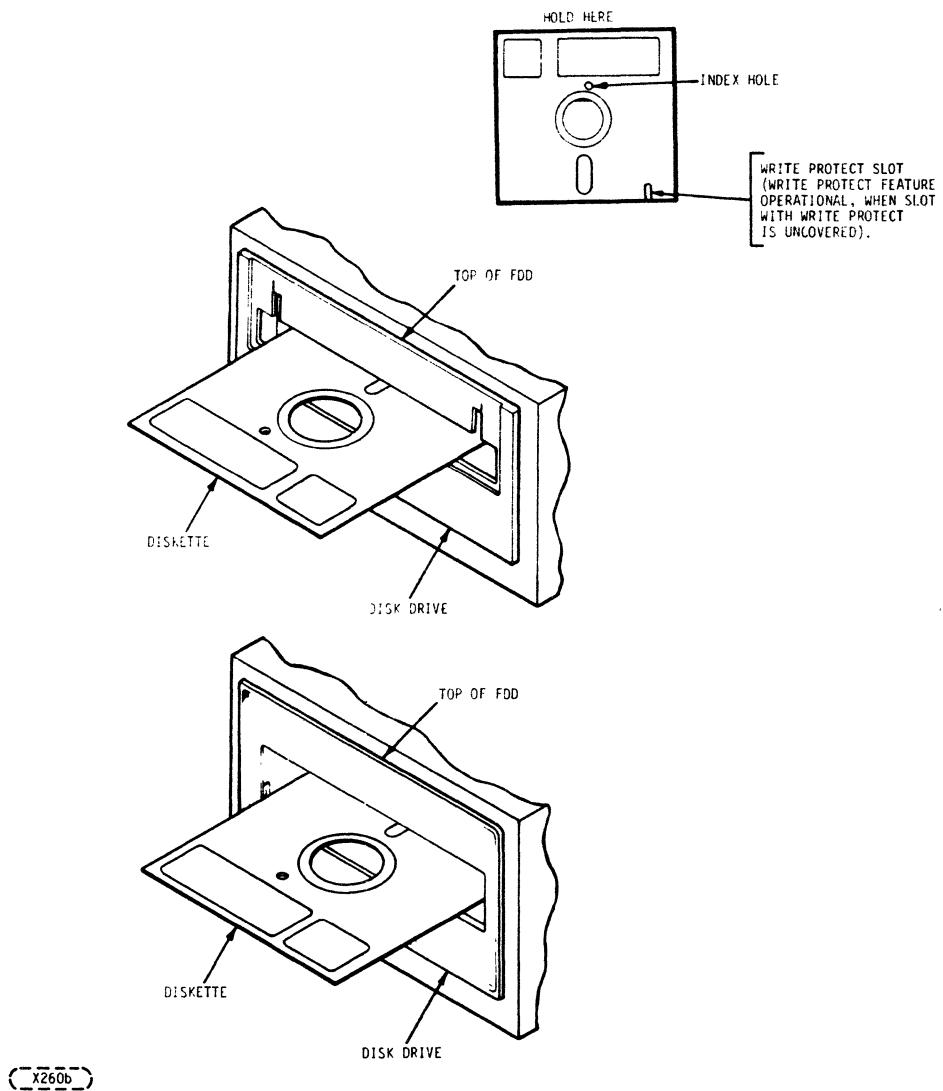

FIGURE 2-1. DISKETTE INSTALLATION
- c. Remove diskette from storage envelope as show in Figure 2-1.
- d. Be sure the Write-Protect slot in the jacket is open, as shown in Figure 2-1, if the diskette is to be write-protected.
- f. Carefully slide diskette into FDD, as shown in Figure 2-1, until jacket is solidly against stops and sets the ejector mechanism.